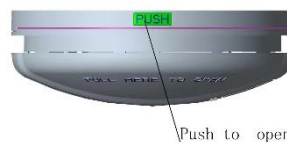

Fig. 5 – Press PUSH to unhinge base
1. Unhinged the smoke alarm from the base by pressing the PUSH button located on the side of the base part (see Fig. 5).